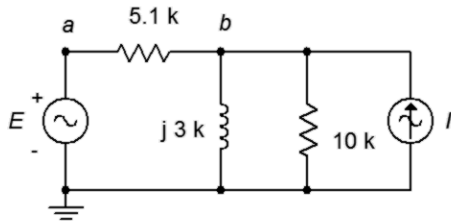

Figure 5.13
25. Use Superposition to determine v_b in the circuit of Figure 5.13. $I = 3E-3\angle 0^\circ$ and $E = 9\angle 0^\circ$.
26. Use Superposition to determine the inductor current in the circuit of Figure 5.13. $I = 4E-3\angle 0^\circ$ and $E = 18\angle -45^\circ$.